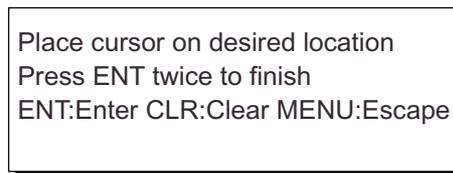

Figure 5-3
2) Press [1] to select Cursor. The display shown in Figure 5-3 appears.